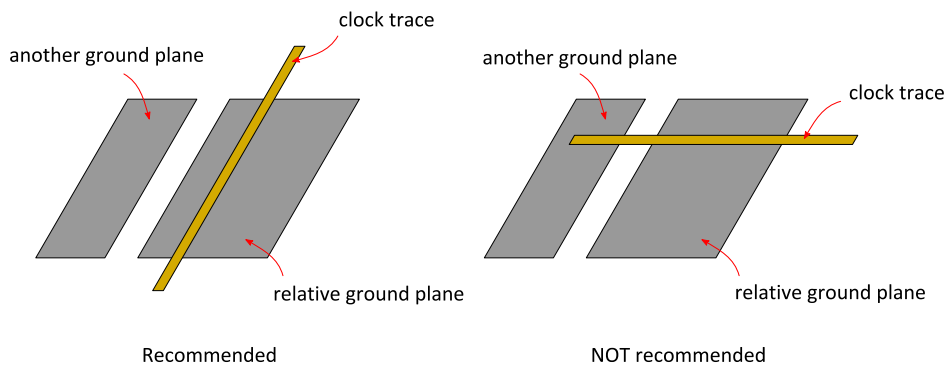

Figure 11: Clock trace layout in relation to the ground plane
- The clock traces should be parallel to their reference ground planes. That is, a clock trace should be right beneath or on top of its reference ground plane (see Figure 11).